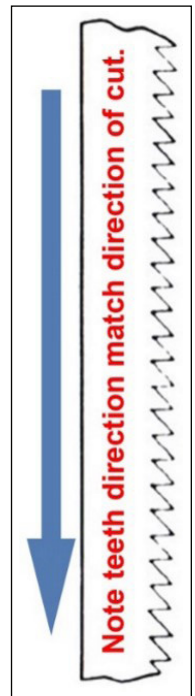

Fig. 7
4. Slide the blade on the wheels so the back edge of the blade is approximately 1/32" from the back flange of the wheel. Check the teeth on the portion of the blade between the upper and lower blade guides to see that they point down toward the table (Fig. 7).